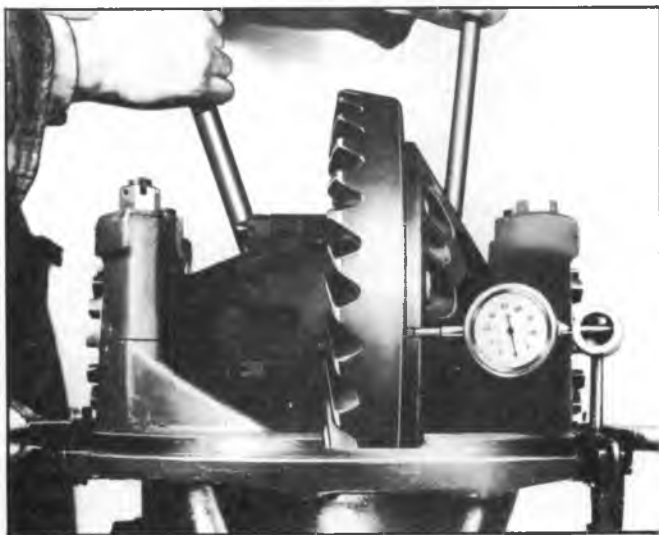

Fig. 7L--Checking End Play, Using Dial Indicator
2. Install bearing adjusters (6) and (33), caps (5), and cap bolts.
3. Turn in right-hand adjuster until punch mark is in original position (View B, fig. 2L). Turn in left-hand adjuster until no end play exists between differential and carrier. Check for end-play using dial indicator as shown in Figure 7L. Then revolve ring gear and check for run-out.